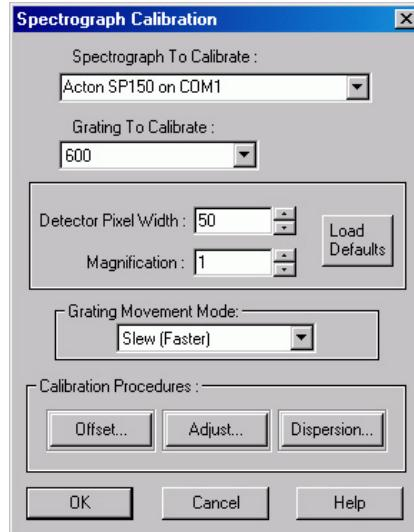

Figure 65. Spectrograph Calibration dialog box
3. Select **Calibrate** on the Spectrograph menu. This will open the Spectrograph Calibration dialog box (Figure 65).